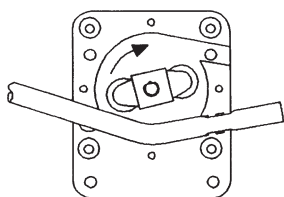

FIG. 1
6. Position the roller bracket assembly as shown in Fig. 1.